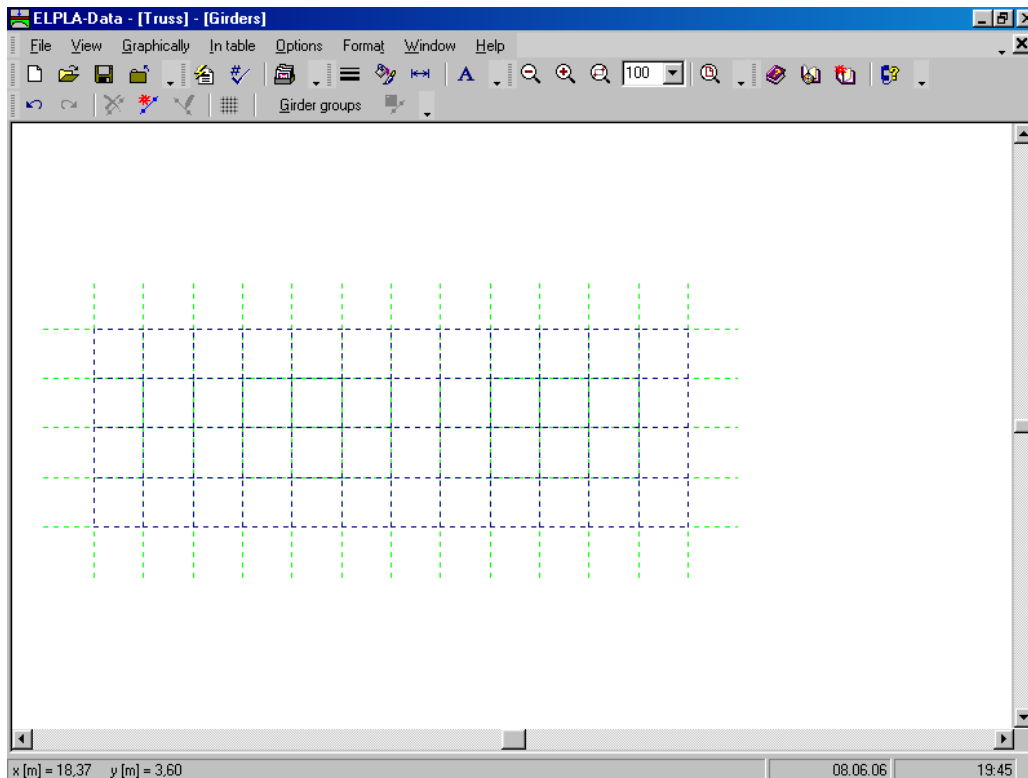
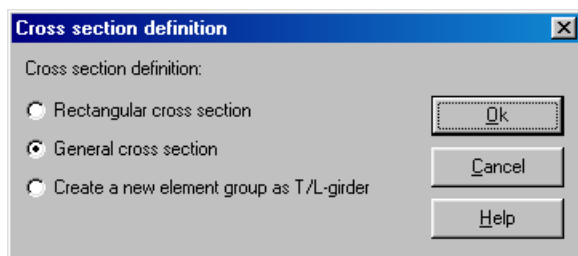

Figure 6-11 "Girders" embedded program
Figure 6-12 "Cross section definition" option box
To define the truss members, choose "Girders" command from "Data" menu of *ELPLA-Data*. The following embedded program in Figure 6-11 appears.
- Choose "Girder groups" command from "In Table" menu in Figure 6-11. The following option box in Figure 6-12 appears
- Choose "Add girders" command from the "Graphically" menu in Figure 6-11. When "Add girders" command is chosen, the cursor will change from an arrow to a cross hair